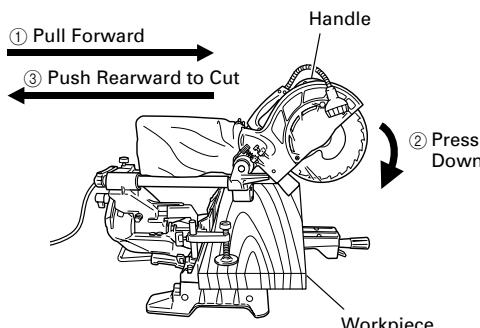

Fig. 28
- (1) Workpieces up to 2-9/16" (65mm) high and 12-1/4" (312mm) wide: Loosen the slide securing knob (see Fig. 2), grip the handle and slide the saw blade forward. Then press down on the handle and slide the saw blade back to cut the workpiece as indicated in Fig. 28. This facilitates cutting of workpieces of up to 2-9/16" (65mm) in height and 12-1/4" (312mm) in width.
- (2) Workpieces up to 2-15/16" (75mm) high and 10-5/16" (262mm) wide: Workpieces of up to 2-15/16" (75mm) in height and up to 10-5/16" (262mm) in width can be cut in the same manner as described in paragraph 6-(1) above.
- \* For slide cutting, follow the procedures indicated above in Fig. 28.